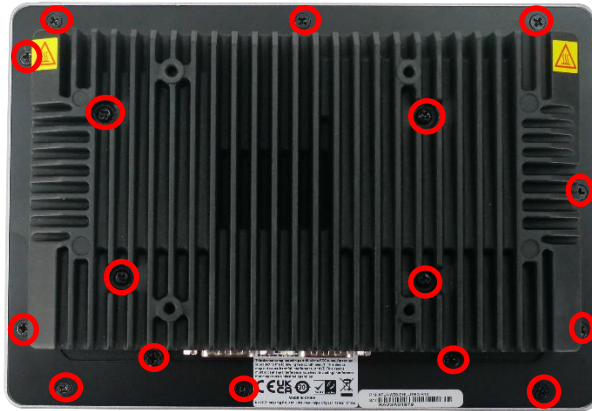

Figure 3-1: Back Cover Retention Screws
Step 1: Remove the back cover. See **Figure 3-1**.
Step 2: Locate the M.2 M-key 2242 card slot. Remove the preinstalled retention screw on the standoff of the M.2 M-key card slot as shown in